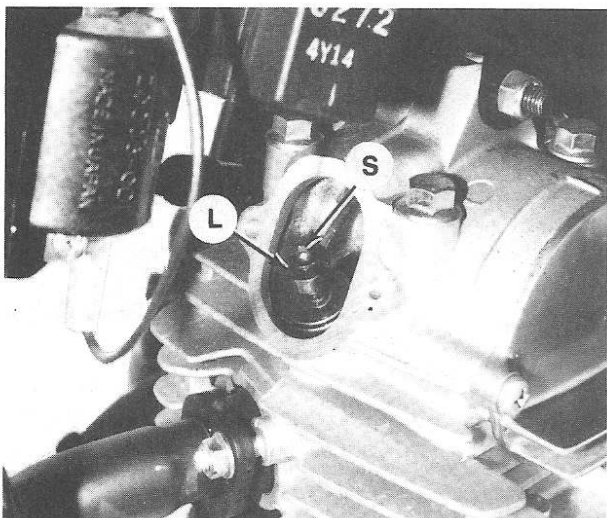

Fig. K1-8—Loosen locknut (L) and rotate adjusting screw (S) to adjust valve clearance. Valve clearance should be 0.12-0.17 mm (0.005-0.006 in.).
Valve clearance is adjusted by loosening locknut (L—Fig. K1-8) then turning adjusting screw (S) so the proper clearance between the valve stem and adjusting screw is obtained. Valve clearance for both valves should be 0.12-0.17 mm (0.005-0.006 in.). Recheck valve clearance after tightening the locknut.